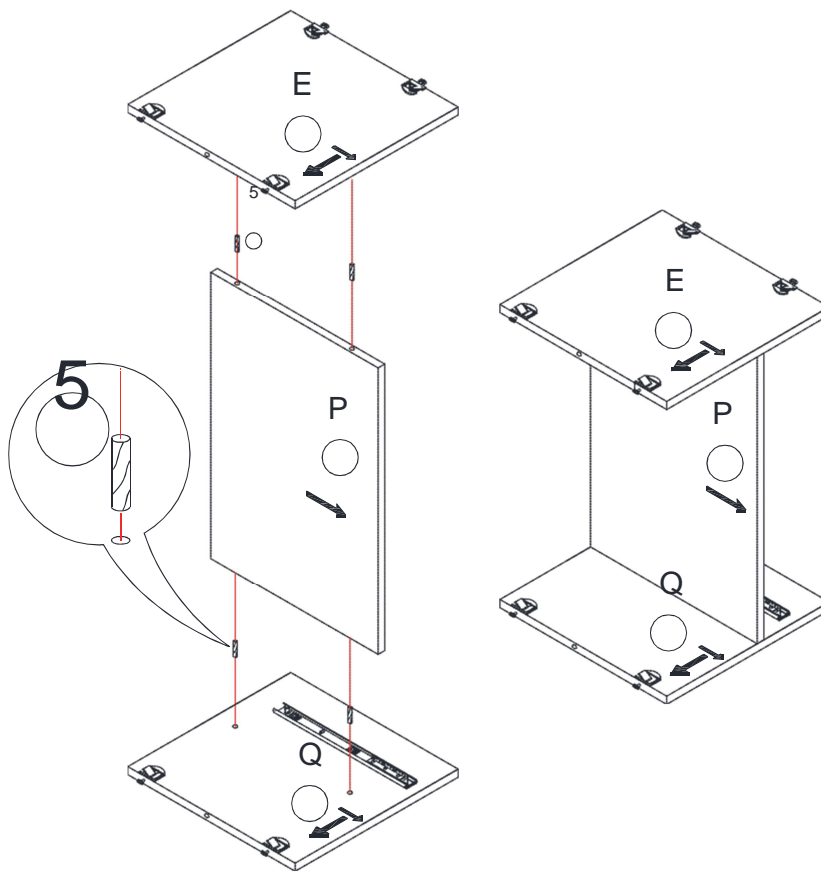

Figure 2
Attach the right center divider (E), left center divider (Q) and fixed shelf (P) using wood dowels (5) as shown in figure 2.